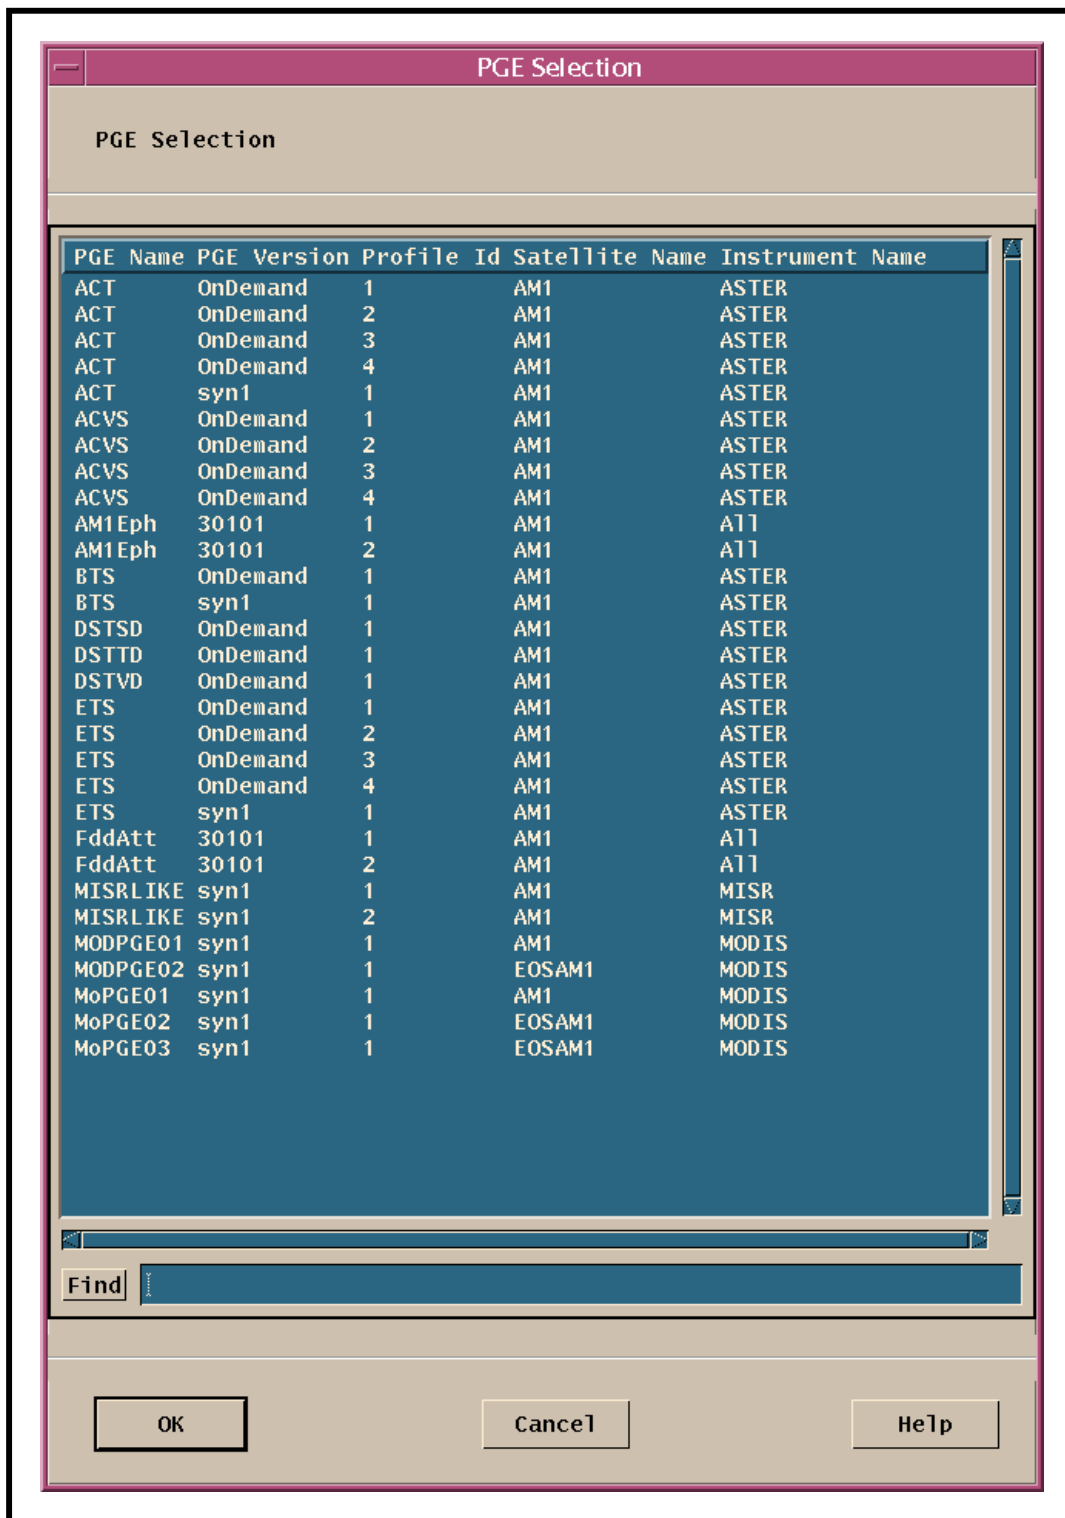

Figure 19. PGE Selection GUI
- Enter a number in the range of one (1) to ten (10).
- One (1) has the highest priority; ten (10) has the lowest priority.
- The **PGE Selection** GUI (Figure 19) is displayed.